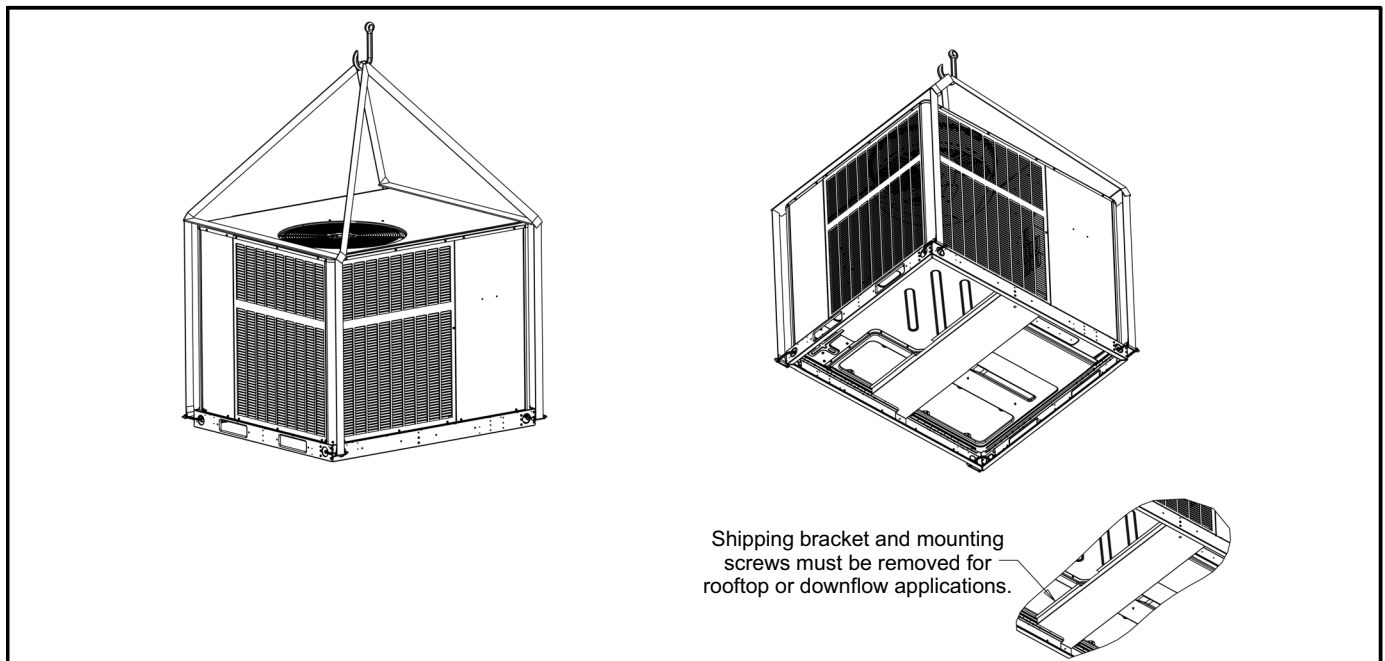

FIGURE 2
- 4- Prior to setting the unit on the roof curb, remove the shipping bracket located underneath the unit. Remove the two screws in the base rail (located on the front and rear of the unit). The four screws and the bracket can be discarded. See Figure 2.
Rig unit for lifting by attaching four cables to holes in unit base rail. See figure 2.